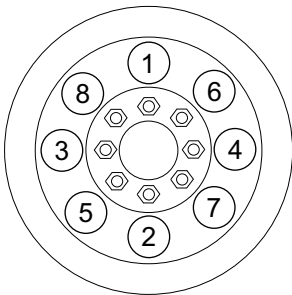

Figure 3-18. Lug Sequence
7. Check all wheel lugs. Tighten or replace any loose or missing lugs. If a tire was removed for axle service or replaced, tighten lugs in the order shown in **Figure 3-18** to the following specifications: